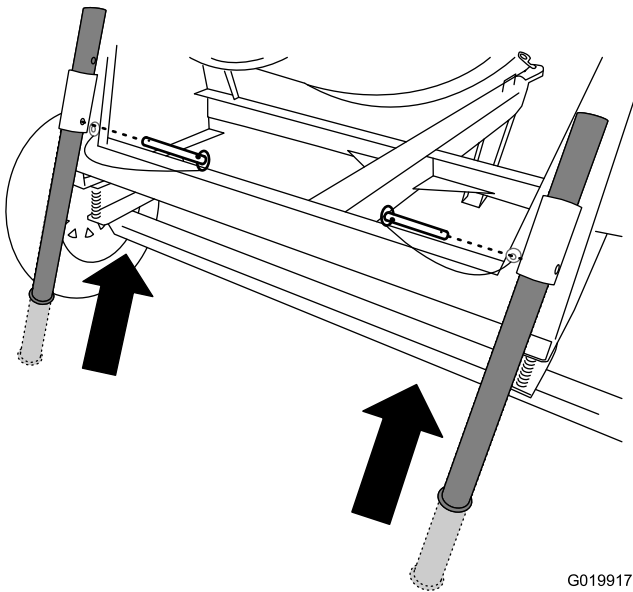

Figure 20
2. Pull the clevis pin out from 1 of the rear stabilizer legs and the bracket (Figure 20).
3. Slide the stabilizer leg up in the bracket and align the pin hole of the bracket with the lower hole in the stabilizer leg (Figure 20).
4. Push the clevis pin through the hole in the bracket and the stabilizer leg (Figure 20).